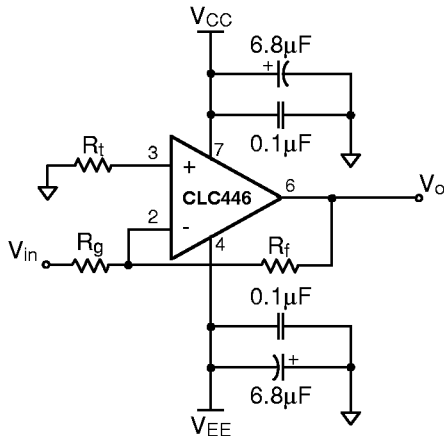

Figure 2: Inverting Gain
The inverting DC voltage gain for the configuration shown in Figure 2 is $A_v = -\frac{R_f}{R_g}$.
- Place a 50 to 200 Ω resistor between the non-inverting pin and ground (see R_t in Figure 2)